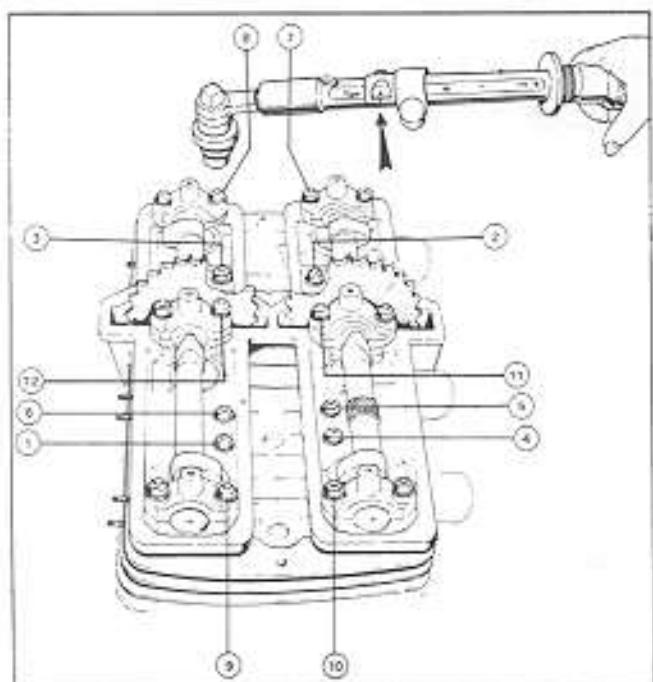

Fig. 24
- Tighten the nuts evenly, following the sequence shown in the figure 24.